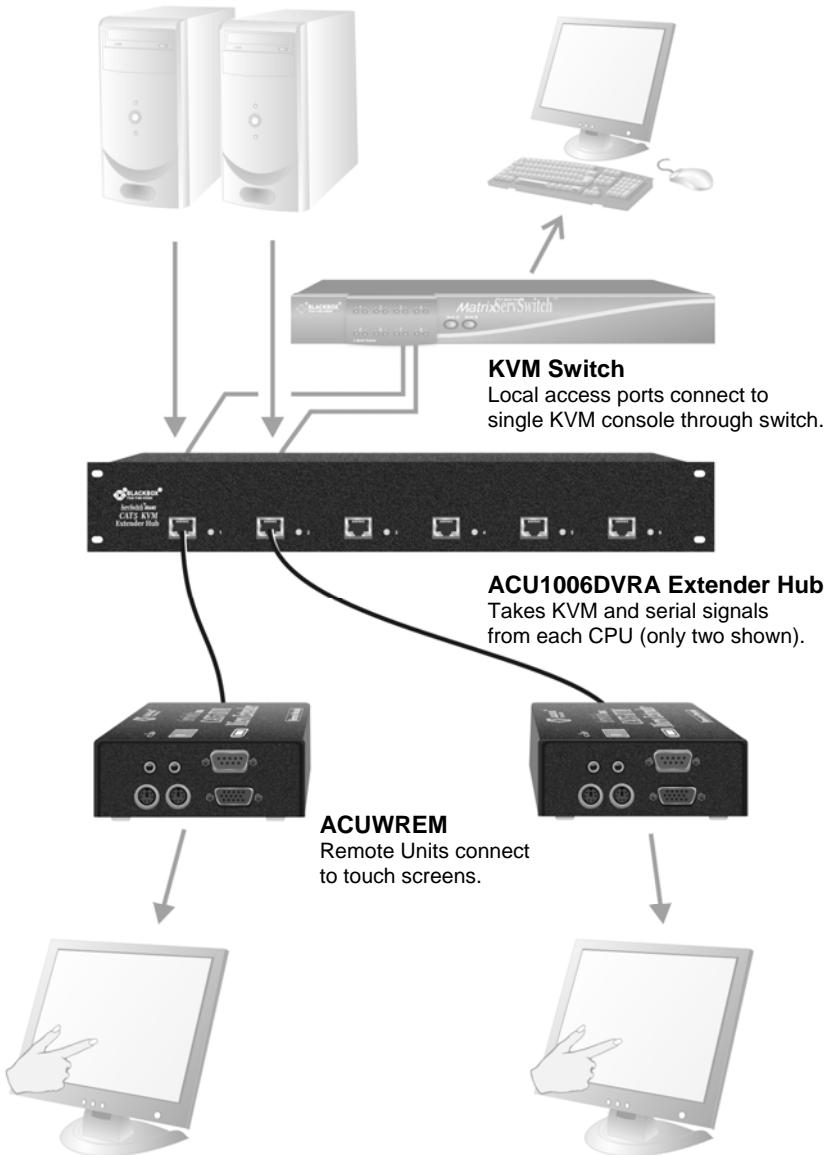

Figure 10 Touch screen network with local access to CPUs through KVM switch
- Six remote serial touch screens with local access through a KVM switch (Figure 10).